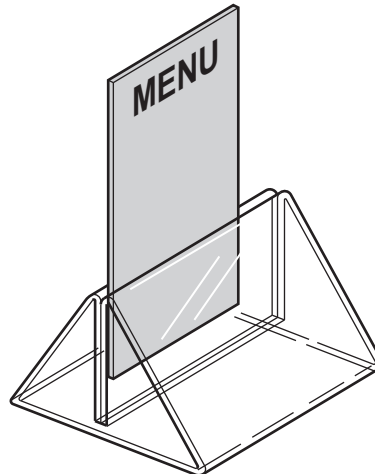

Fig. 4.1
- 4 Fig. 4.1 shows a menu stand made from acrylic.